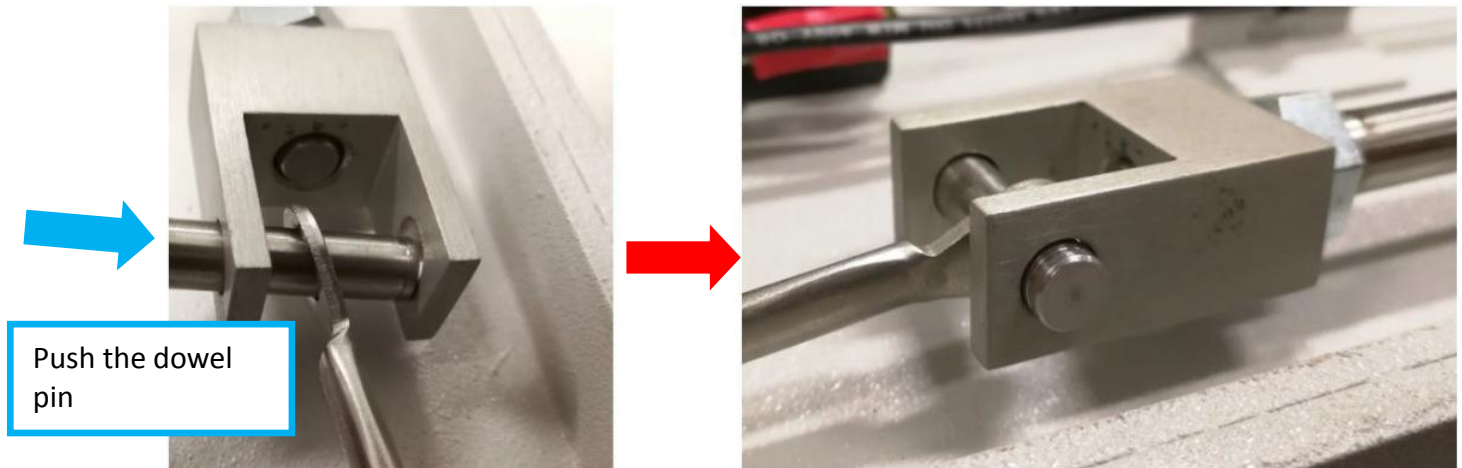

Figure 21
25. Push the dowel pin through Front Extension Block as below Figure 21